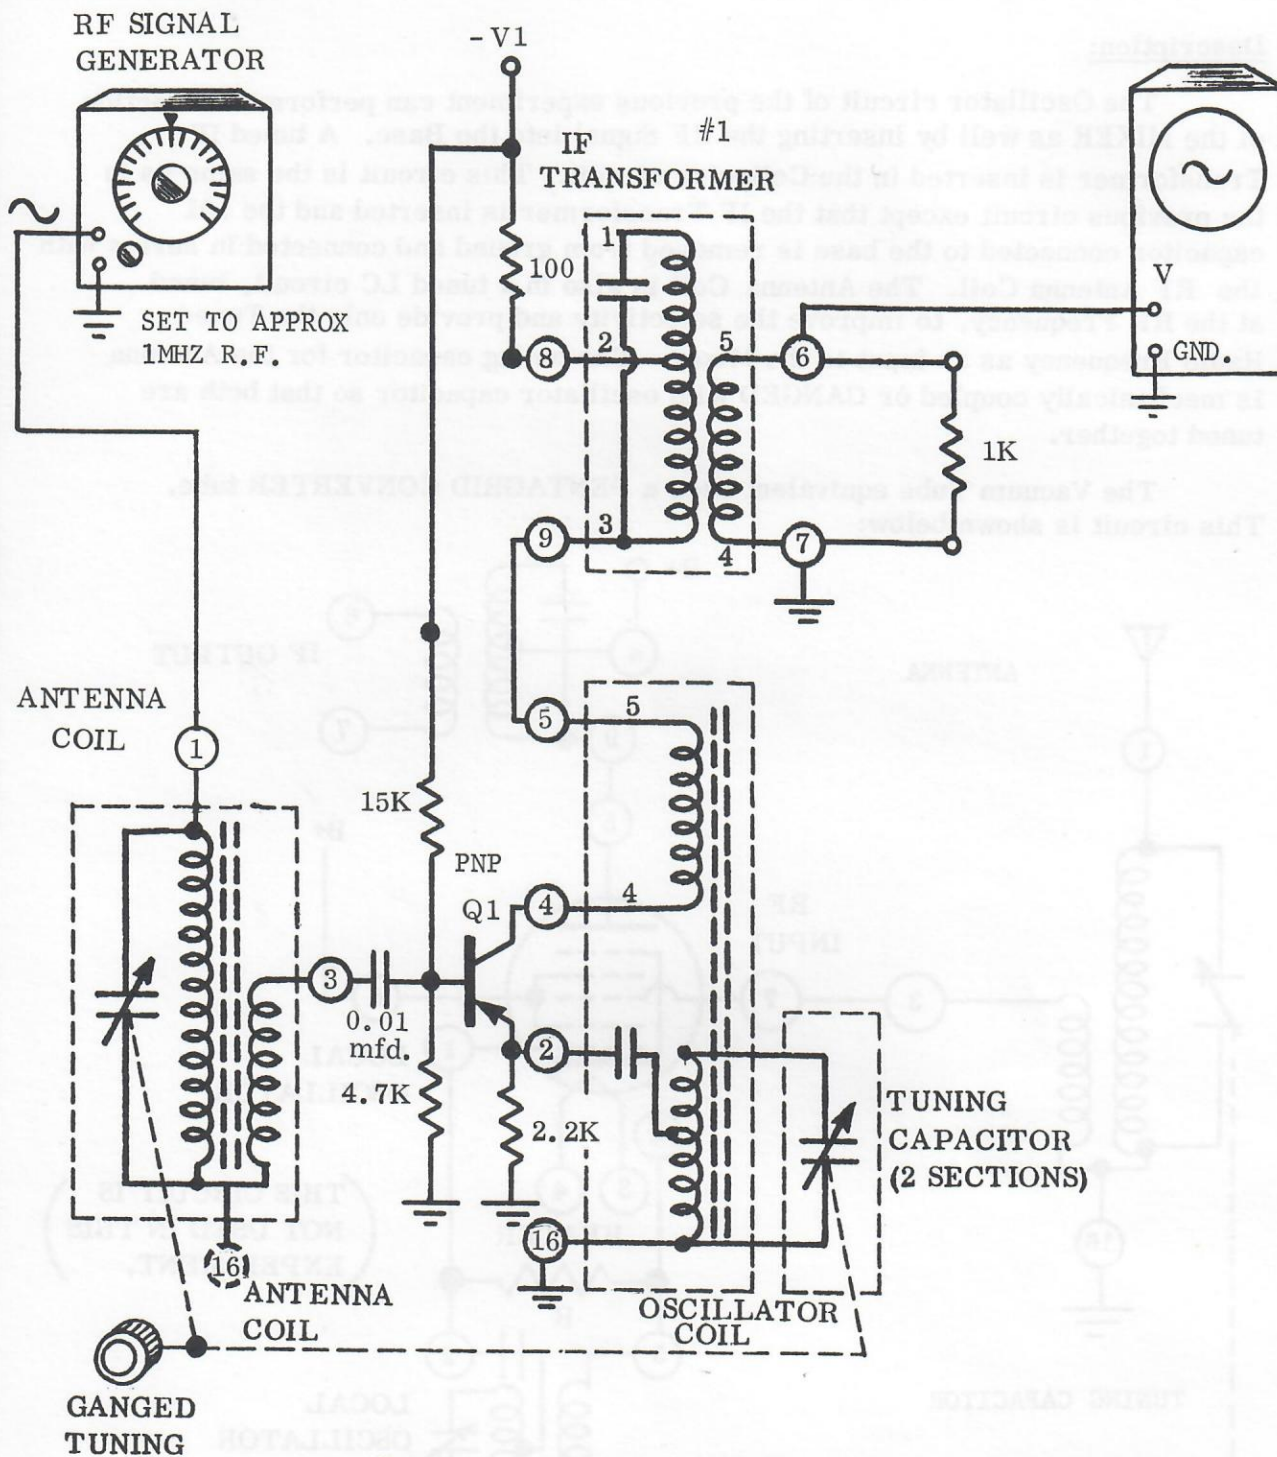

Figure 19-1 Superhetrodyne Converter - Experiment
1. Wire the CONVERTER circuit in Figure 19-1. The NPN TEST Oscillator has a frequency in the radio band. This is used for testing the Mixer.
2. Observe the output from the IF Transformer. This output will be the mixed combination of the RF Signal Frequency, the Local Oscillator Frequency, and the Mixed (IF) Frequency. When there is no RF Input, there will be a very low signal corresponding to the Local Oscillator frequency. When a High R.F. Signal is present (at the Test Oscillator Frequency), the Mixed IF Frequency Signal will be high.